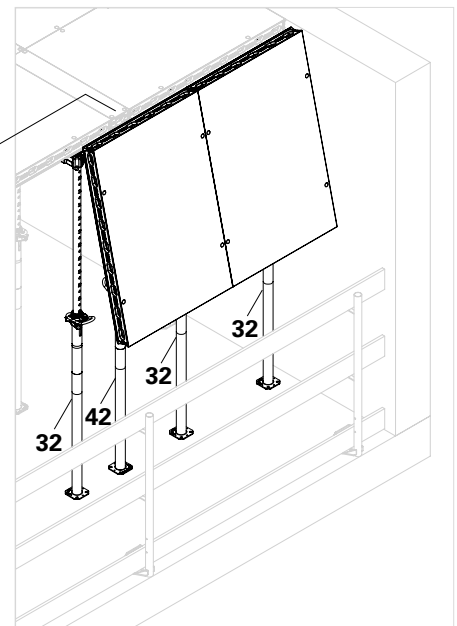

Fig. D4.06b
2. Attach the DP panels (10) complete with mounted brace connector to the DFH propheads (31) and DBH backpropping heads (42). (Fig. D4.06b + D4.06d)